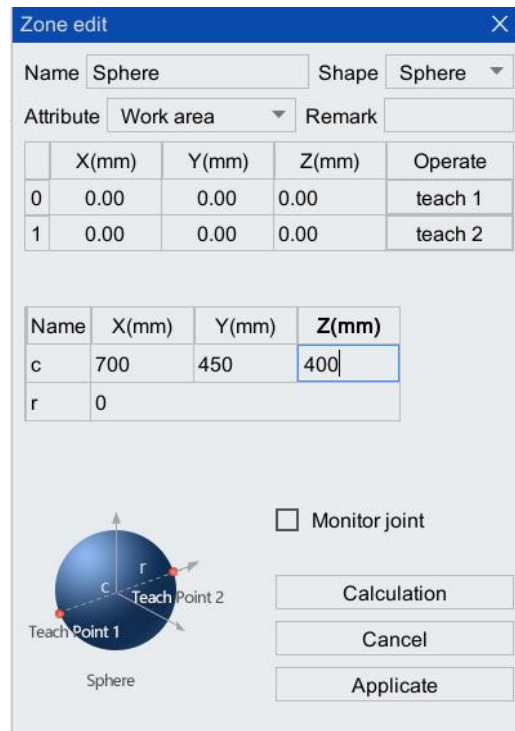

Figure 6-66 Editing interface of working zone "Sphere"
- Step2.** Setting of working zone. Set a shape named "Sphere" as the working zone of the ball, the coordinate value of the ball center is (700,450,400), and the radius of the ball is 400mm, as shown in Figure 6-66.